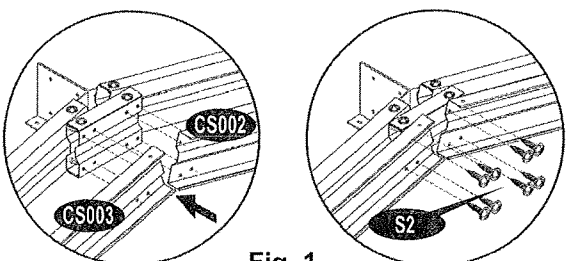

Fig. 1
**13.** Fix top chord center (CS002 & CS003) on the other side following the illustration. Secure all with (S2) screws. See fig. 1, 2 & 3.